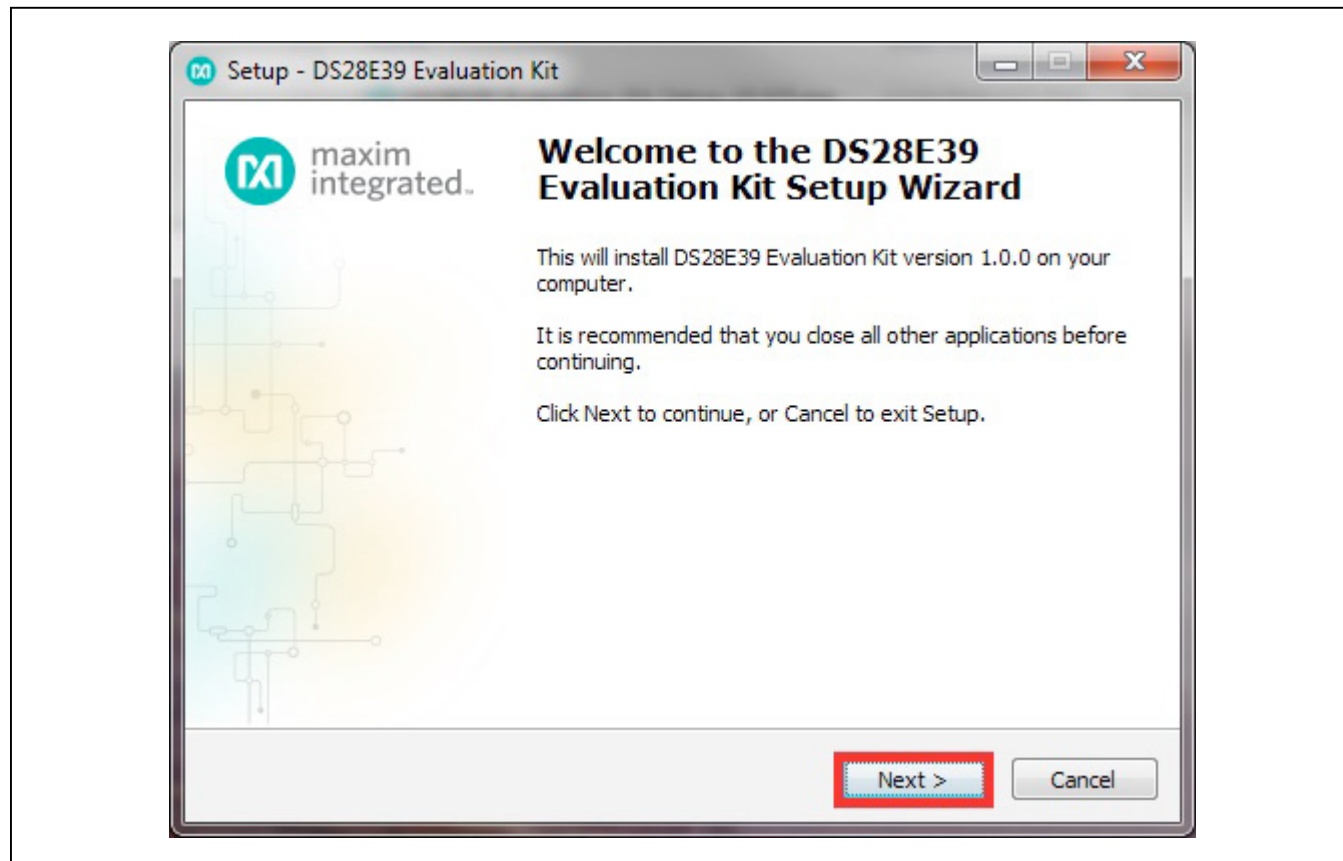

Figure 2. DS28E39 Setup Wizard
- 3) The setup wizard opens; click on **Next**, as shown in Figure 2.